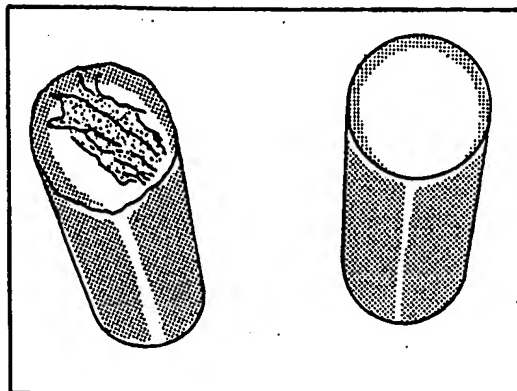

Figure 8-12.—Contaminated and good tungsten electrode.
- Check the size, appearance, and position of the tungsten electrode in the torch. Ensure that the electrode diameter and nozzle size meet the manufacturer's recommendations. The tip should be properly shaped as discussed earlier (refer to figure 8-9). The electrode should extend beyond the end of the gas cup a distance ranging from 1/8 to 3/16 of an inch for butt welding and 1/4 to 3/8 of an inch for fillet welding. Check the electrode for positioning and good electrical contact. The electrode should be clean and silvery. A dirty tungsten electrode can usually be cleaned satisfactorily with a fine emery cloth. If severely contaminated, the electrode should be replaced or the tip broken off and dressed on a grinding wheel. A contaminated tungsten electrode and a good tungsten electrode are shown in figure 8-12.